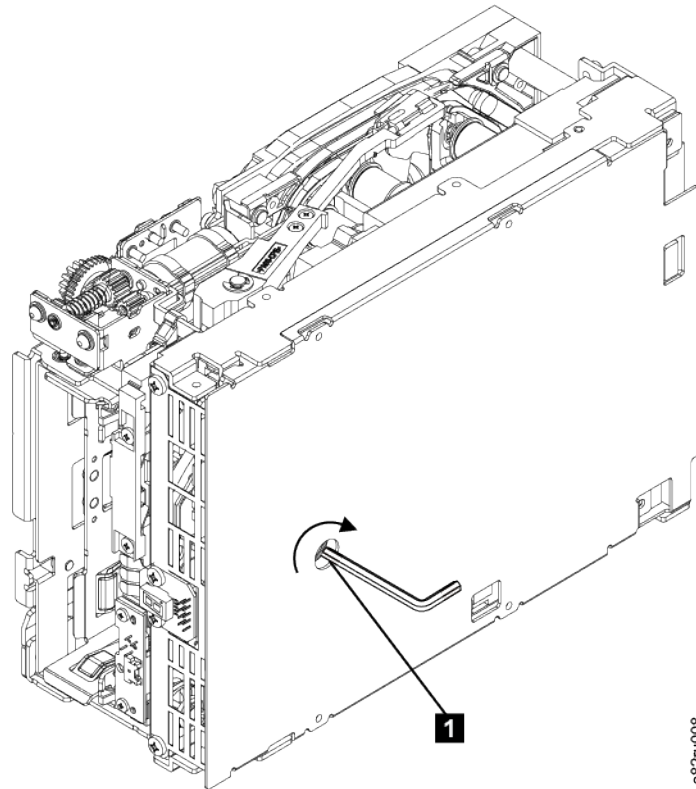

Figure 120. The hex wrench rewinds tape into cartridge
6. From the bottom of the drive, locate the access hole (**1** in Figure 120 on page 255) in the bottom cover. Insert a 2.5 mm offset hex wrench through the bottom cover access hole and into the reel motor axle. Begin spooling tape back into the cartridge by turning the hex wrench clockwise.